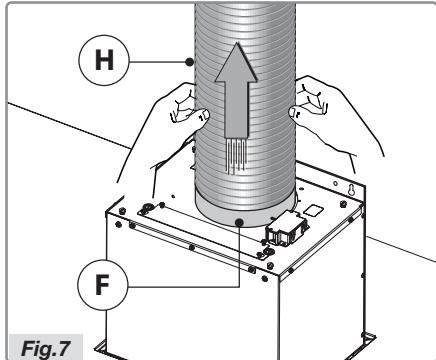

Fig.7
- Secure the air outlet pipe **H** (not supplied) to the connection flange **F** as indicated in Figure 7.